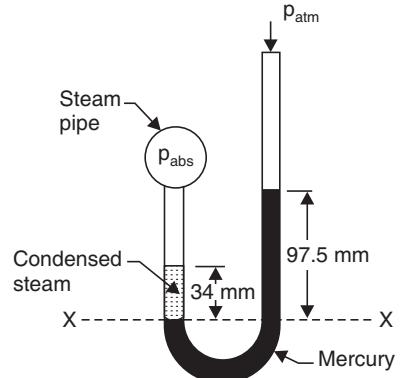

Fig. 1.25
**Solution.** Equating the pressure in mm of Hg on both arms above the line XX (Fig. 1.25), we get